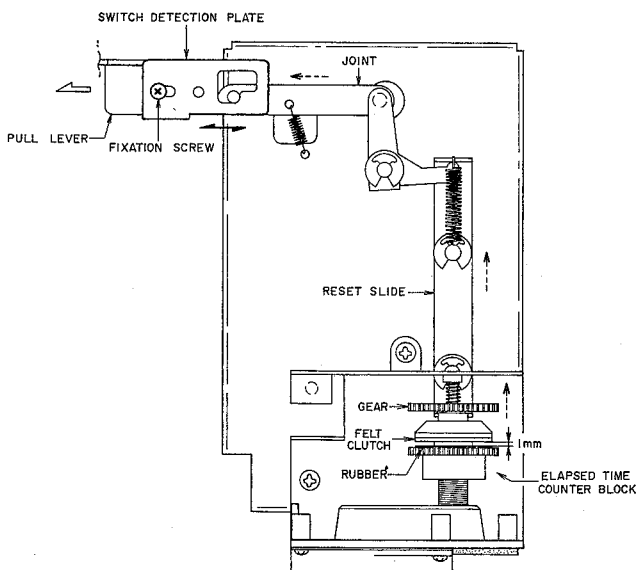

Fig. 5
3. SWITCH DETECTOR PLATE INSTALLATION POSITION ADJUSTMENT (Refer to Fig. 5)